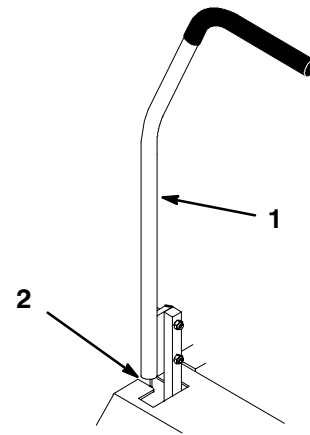

Figure 65
3. Check where lever is relative to notch in console (should be centered allowing lever to pivot outward to the neutral lock position (Fig. 65).